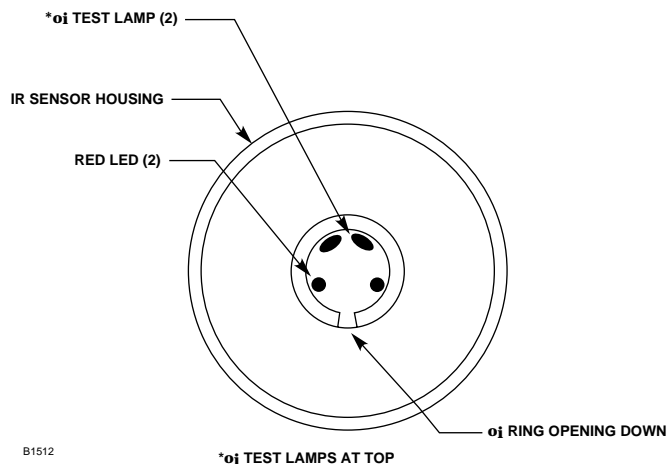

Figure 11—Front View of the U7698E Detector
Check the viewing window surface (Figure 11) and ensure:
4. Determine the proper orientation for the new sensor module (with the **oi** test lamps positioned at the top of the detector). See Figure 11. Thread the wire leads and keyed connector plug through the slotted opening on the IR module. Plug the IR module into the two banana plugs in the bulkhead.